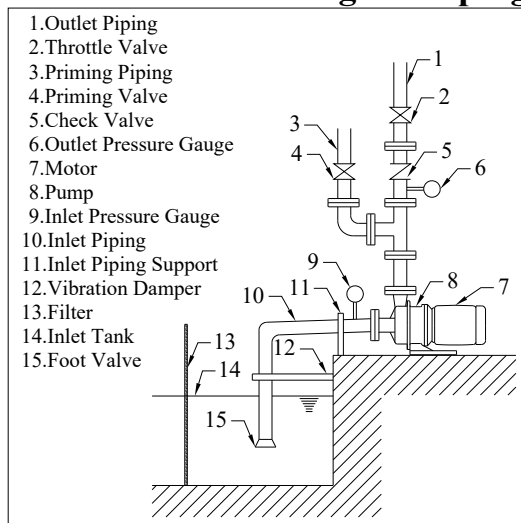
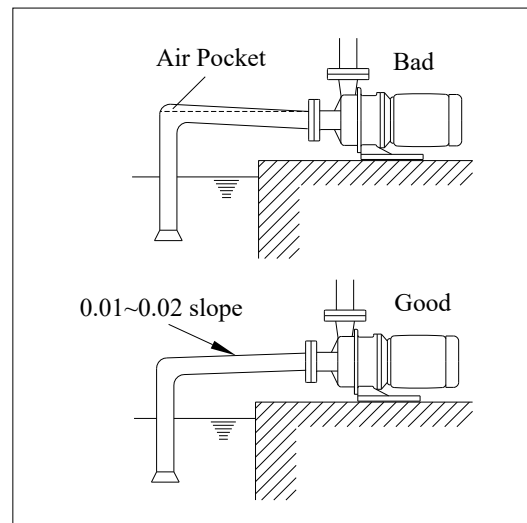

Fig. 4.1
Fig. 4.2
<p>General requirements</p> <p style="writing-mode: vertical-rl; transform: rotate(180deg);">Suction System</p>	<p>(1) Suction condition must satisfy $NPSHa > NPSHr + 0.5$ m.</p> <p>(2) Minimize suction piping loss by using straight and short piping.</p> <p>(3) The piping should be supported adequately (see Fig. 4.1). The pump should not be used for piping support.</p> <p>(4) Effects of temperature changes should be factored into the support structure design to prevent thermal stress buildup.</p> <p>(5) Suction piping and connectors should be hermetically sealed to prevent drawing in air during operation.</p> <p>(6) The suction piping should not be allowed to collect air. There should be a 0.01~0.02 upward slope towards the pump (see Fig. 4.2).</p> <p>(7) There should not be any elbows within 5D (5 times diameter) distance from the pump opening. The elbow closest to the pump suction should be a long radial elbow.</p>
Foot valve	Install a foot valve if negative suction or upward suction is used (see Fig. 4.1).